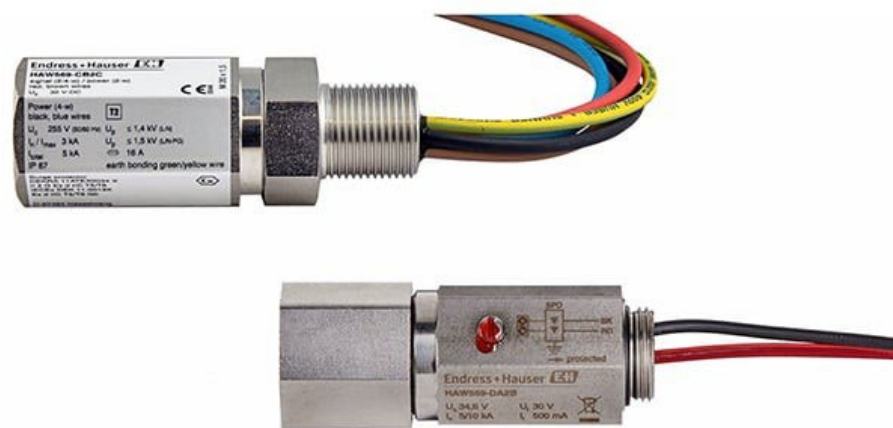

Figure 5: HAW569-CB2C for power and signal cables (top) and HAW569-DA2B for signal cables (bottom). Image source: Endress+Hauser
- HAW569 surge arresters for process field instrumentation like the **HAW569-CB2C** for power supply and signal cables and the **HAW569-DA2B**, for signal cables (Figure 5)